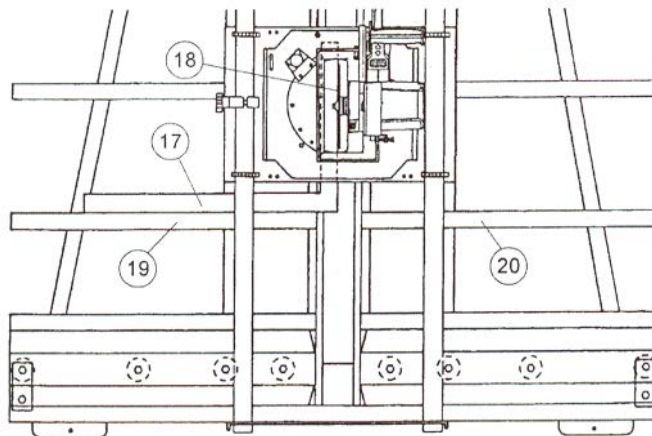

Figure 32: Adjusting the Crosscut Rulers
2. Loosen the carriage lock and lower the carriage as shown in Fig. 32.